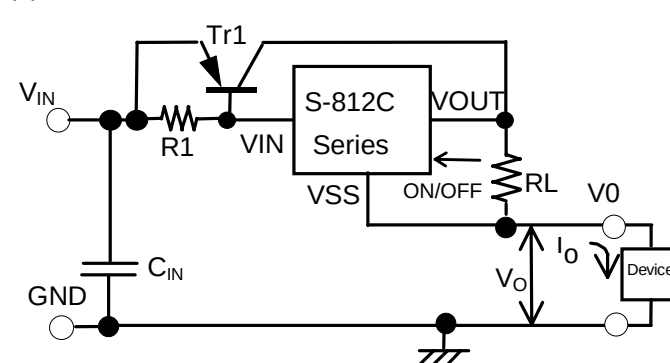

Figure 12 Constant Current Circuits
The S-812C series can be served in a constant current circuit as shown in the figure 12. Constant current I_O is calculated from the following equation:
Please note that in case of the circuit shown in the figure 12 (1) the magnitude of the constant current I_O is limited by the driving ability of the S-812C.
The circuit shown in the figure 12 (2) can, however, provide the current beyond the driving ability of the S-812C by combining a constant current circuit with a current boost circuit. The maximum input voltage for the constant current circuit is the sum of the voltage V_O of the device and 16 V. It is not recommended to attach a capacitor between the S-812C power source VIN and VSS pins or between output VOUT and VSS pins because rush current flows at power-on.
(1) Constant Current Circuit
(2) Constant Current Boost Circuit